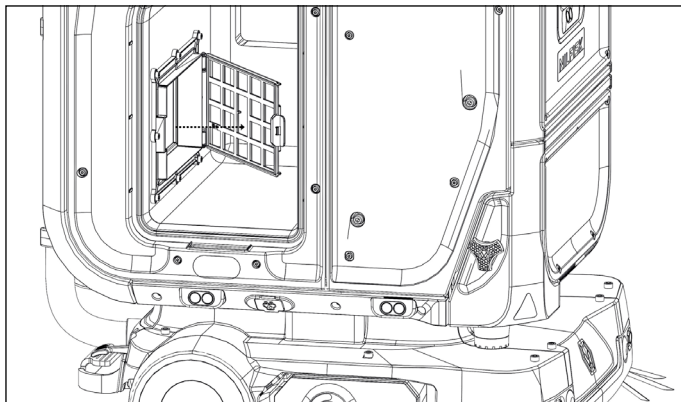

Figure 83
3. Open the filter holder (21) (Fig. 4) by pushing on the blue plastic catch and rotating it away from you (Fig. 83).